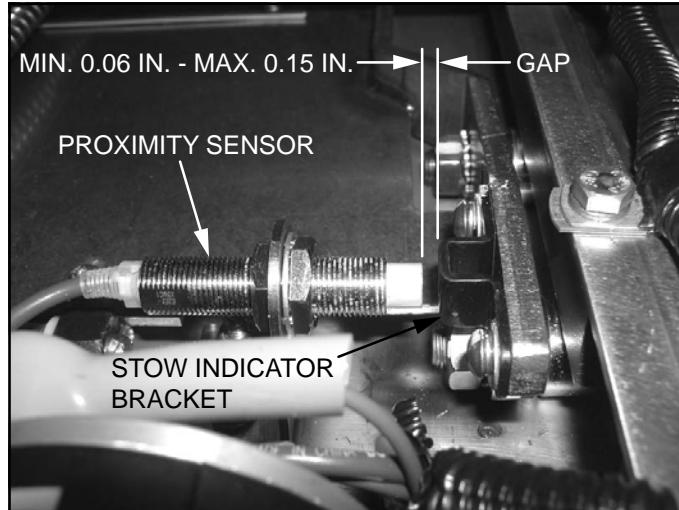

FIGURE 4-13: PROXIMITY SENSOR GAP
- e. Refer to **Figure 4-13**. Adjust and allow a minimum gap of 0.06 inch to a maximum gap of 0.15 inch in between the proximity sensor and proximity sensor bracket.